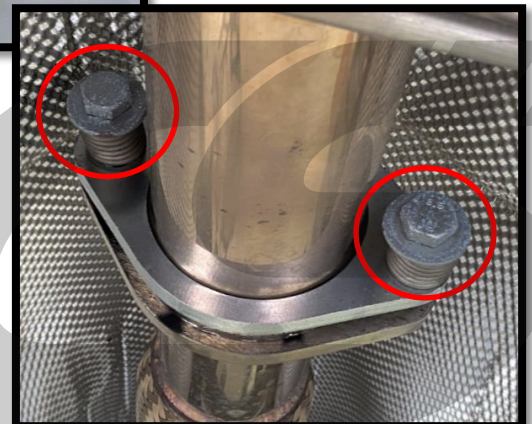

Figure 3f
- g) Remove the two 17mm (14mm for OEM) bolts between the downpipe and the catback exhaust (CBE), circled in red in Figure 3f. (If applicable) Remove the 17mm (14mm for OEM) bolts between the race pipe and upper downpipe.